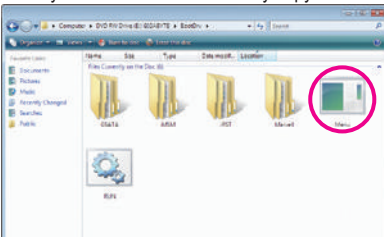
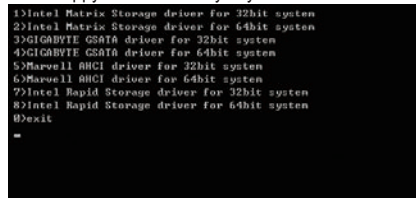

Figure 3
Figure 4
- 2: From your optical drive folder, double click the **Menu.exe** file in the **BootDrv** folder (Figure 3). A Command Prompt window will open similar to that in Figure 4.
- 3: Insert the blank formatted disk. Select the controller driver by pressing the corresponding letter from the menu and press <Enter>. For example, from the menu in Figure 4,